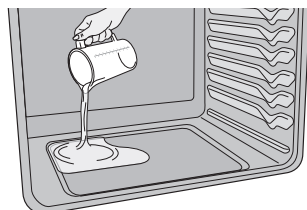

Figure 31: Add 2 cups of tap water
3. Pour 2 cups of tap water onto the upper or lower oven bottom. (Figure 31) Close oven door.